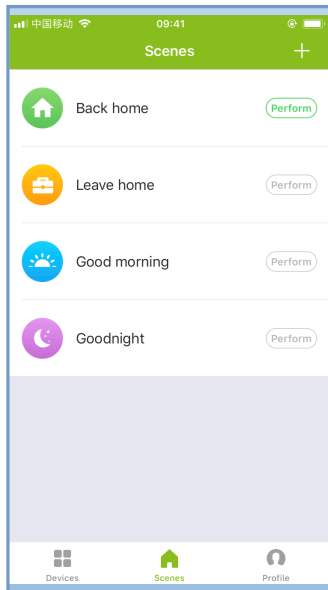
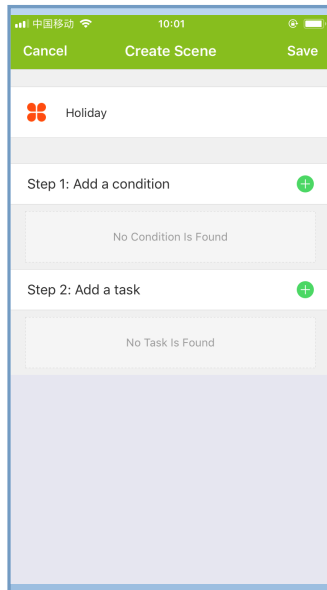
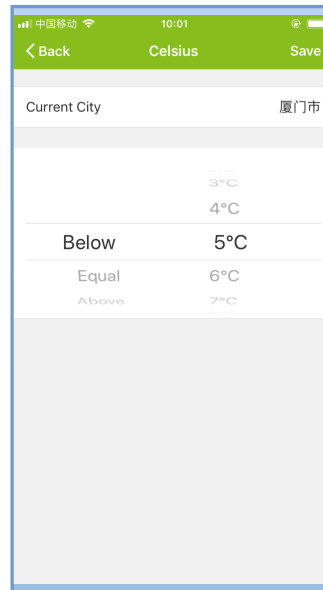
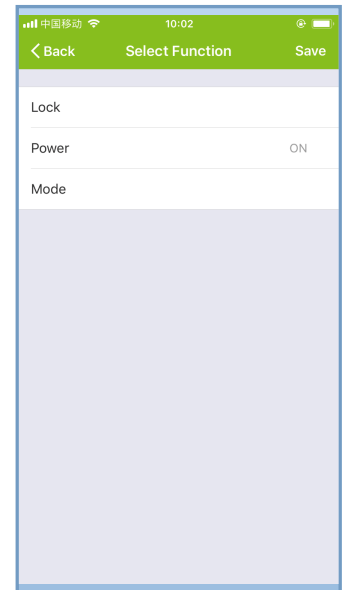

fig 8.1
fig 8.2
fig 8.3
fig 8.4
- Scenes(fig 8.1)>+>Enter a name for the scene(fig 8.2)>Add a condition(Below 5°C as fig 8.3)>Add a Task(fig 8.4)>Save